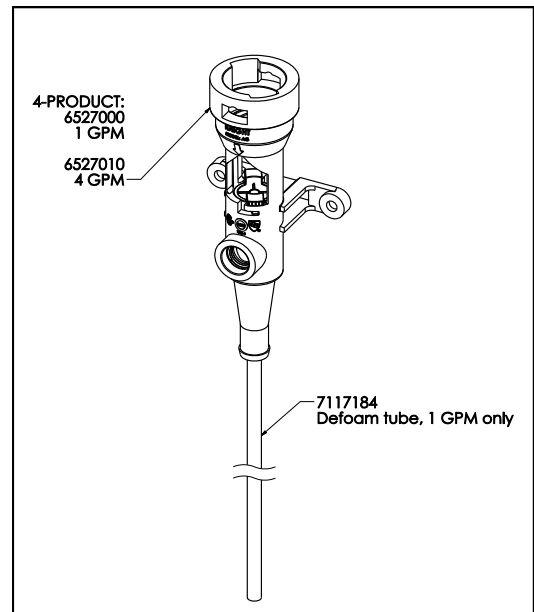

Figure 2 (Aire-Gap Assembly)
- (1) Remove the cover by gently snapping it away from the unit. Disconnect tubing from Aire-gap housing.
- (2) Twist and disconnect Aire-Gap housing counter-clockwise to remove water valve body.
- (3) Remove existing nozzle, deflector plate, and venturi tube by disassembling the Aire-Gap assembly — **See Figure 2.**
- (4) Reassemble the Aire-Gap using new nozzle, splash deflector, and venturi tube (for the desired flow rate). To avoid leakage, install the rubber washer with the ribs facing upwards.
- (5) Put Aire-Gap assembly back in place in the order that parts were removed.
- (6) Twist and reconnect Aire-Gap assembly back onto the water valve body.